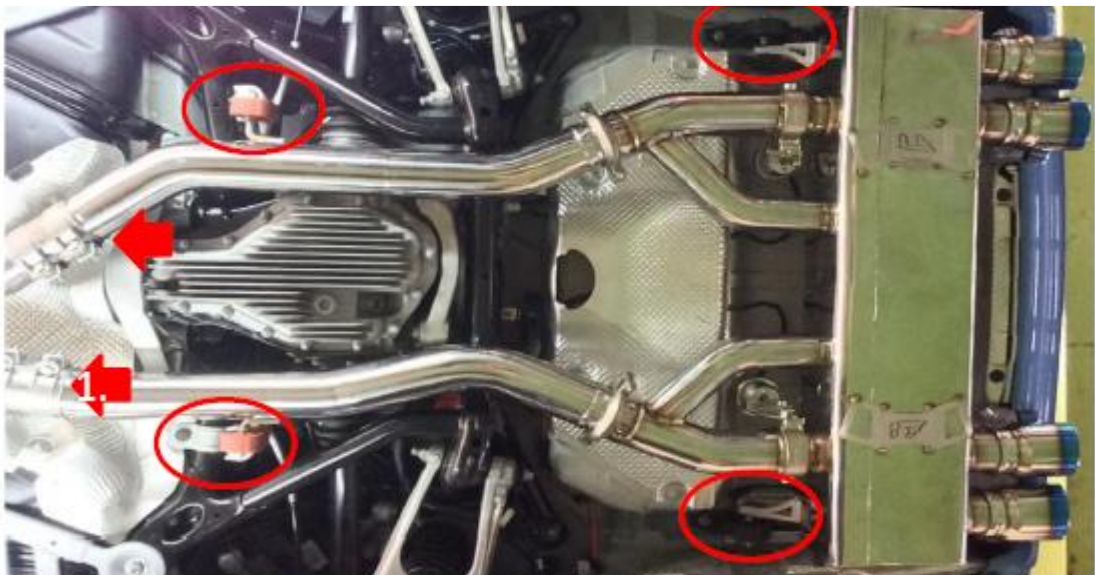

Figure 2-2
2. Use the 13mm wrench to lock the bucket body and the middle and rear lifting ears. Figure 2-2 Red circle
The middle and rear sections are fixed with the sliding sleeve and the collar. Figure 2-2 arrow